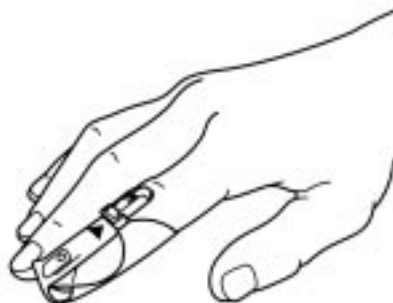

Figure 3
- With *OxiCliq* sensors, if intermittent readings are required, leave the sensor on the patient and either disconnect the *OxiCliq* sensor cable (OC-3) from the sensor (Figure 3) or secure the cable with tape. Protect the site as much as possible when not monitoring.